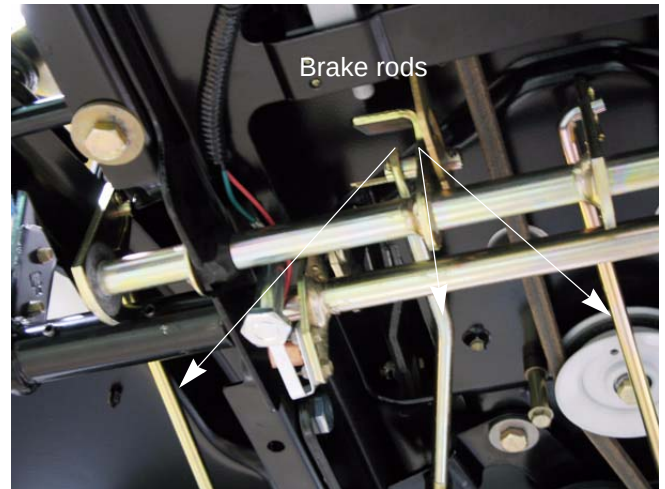

Figure 3.13
2. Remove the cotter pins that retain the three brake rods. Slide the brake rods out of the brake shaft assembly. See Figure 3.13.